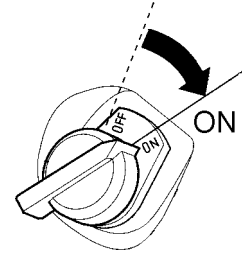

Figure 12. Engine ON/OFF Switch (ON)
4. Place the **engine ON/OFF switch** (Figure 12) in the "**ON**" position.